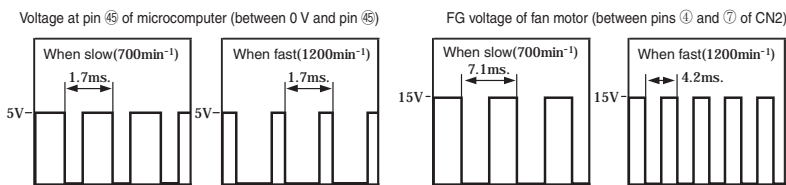

Fig. 3-2
- The VS receives a command voltage from the microcomputer (IC601). The VS terminal undergoes an analog voltage that matches the Lo level time ratio of the pulse signal from pin ④⑤ of the microcomputer. (See Fig. 3-2.)